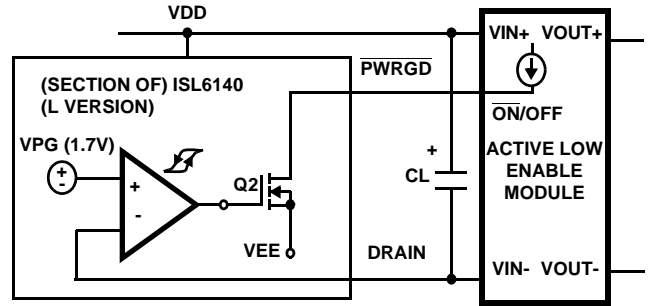

FIGURE 6. ACTIVE LOW ENABLE MODULE
**ISL6140** (L version; Figure 6): Under normal conditions ( $DRAIN < VPG$ ), the Q2 DMOS will turn on, pulling PWRGD low, enabling the module.